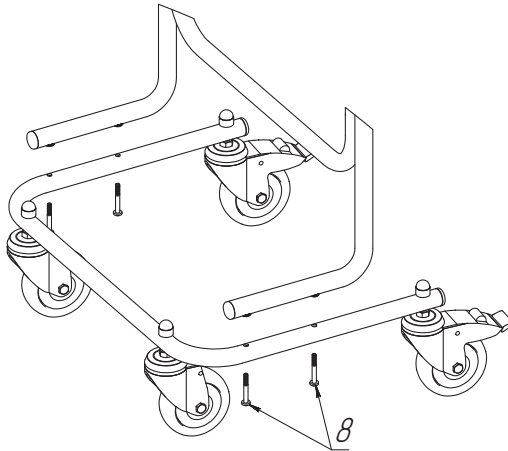

Figure 13.
Place the assembly on the assembled support and fasten it with screws (8), as shown in Figure 13.